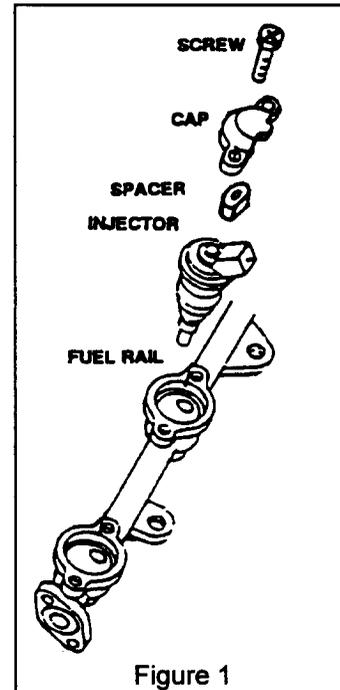

Figure 1
3. Remove the fuel injector cap(s) being very careful not to misplace the rubber spacer(s) fitted between the cap(s) and the injector(s). The rubber spacer(s) must be reinstalled with the new injector(s). Refer to Figure 1.